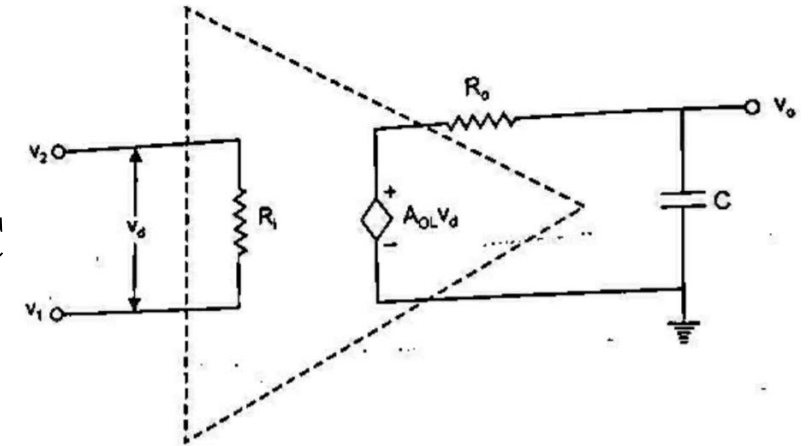

Fig 1: High frequency model of op-amp with single corner frequency.
- The open loop voltage gain of an op-amp with only one corner frequency is obtained from figure 1.